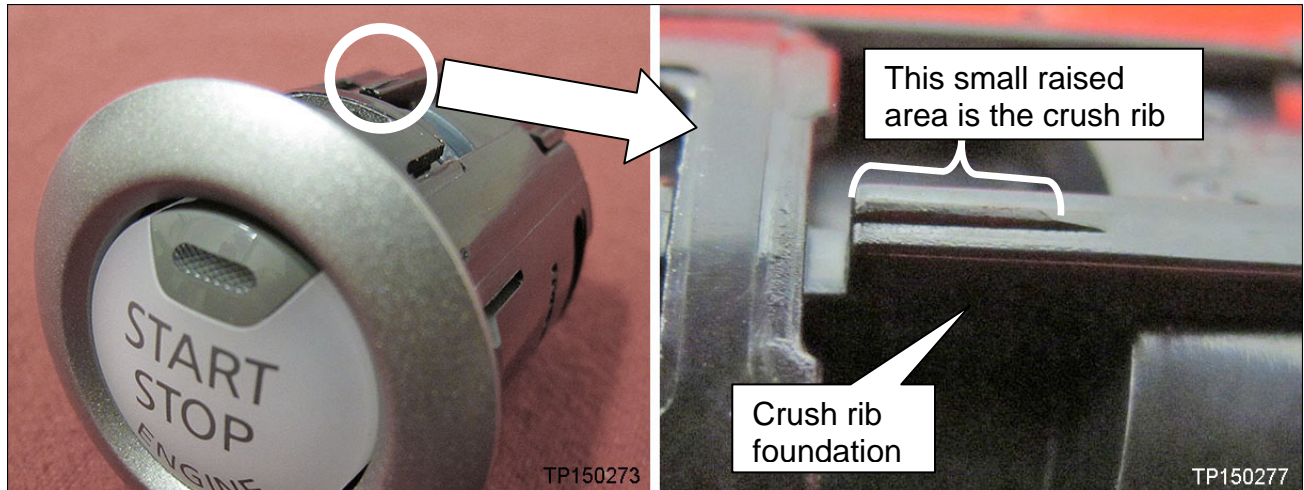

Figure M3
4. Inspect the Engine Stop/Start Switch for a “crush rib” on the top of the switch (see Figure M3).